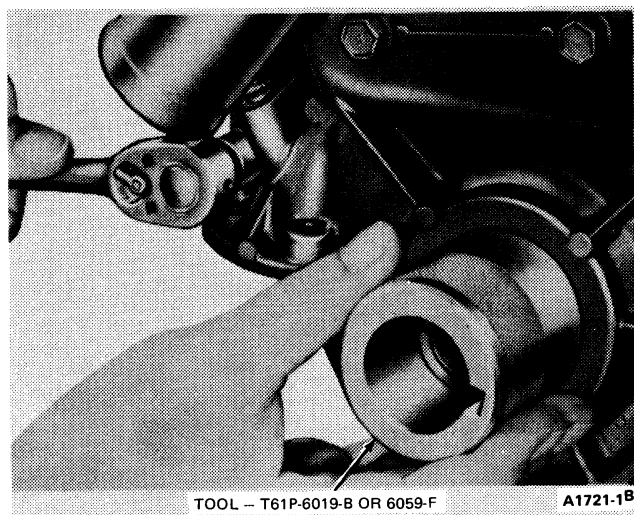

FIG. 29 Aligning Cylinder Front Cover
7. Install the cylinder front cover-to-seal alignment tool into proper position (Fig. 29).